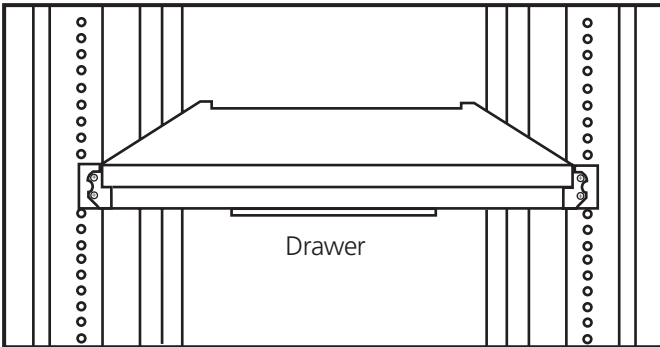

Figure 3-11. Sliding the drawer out.
- Slide out the drawer and then remove the four screws and two safety stoppers from the left and right sides of the KVM Tray in sequence. See Figures 3-11 and 3-12.